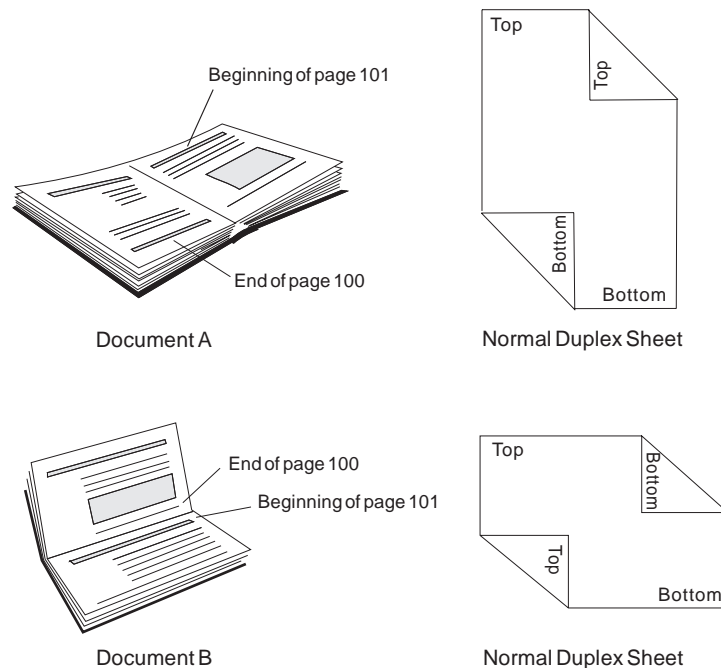

Figure 28. Duplex Documents A and B, Specified as Normal Duplex
- If the sheets are to be bound on the long edge of the paper, as Document A and Document B are in Figure 28, specify *normal duplex*.
Figure 28 shows Document A and Document B printed with normal duplex. Notice that the pages are printed in the *portrait position* for Document A and in the *landscape position* for Document B.